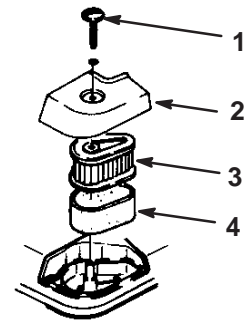

Figure 20
3. Remove the bolt that secures the air cleaner cover (Fig. 20).
4. Remove the cover and clean it thoroughly (Fig. 20).
5. Remove the foam pre-cleaner and wash it with a mild detergent and water, then blot it dry (Fig. 20).
7. Remove the paper air filter and discard it (Fig. 20).